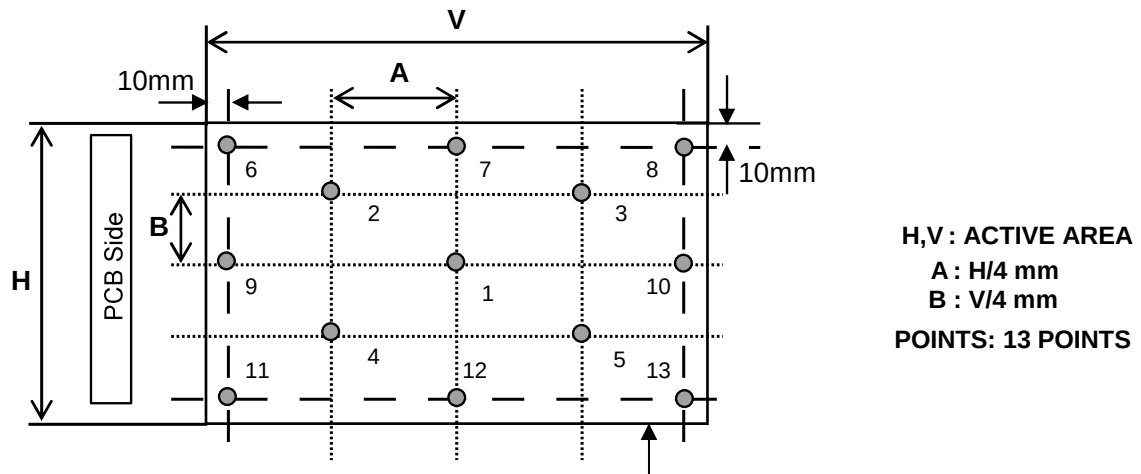

FIG. 3 Response Time
4. Response time is the time required for the display to transition from black to white (rise time, T_r) and from white to black (falling time, T_f) at first peak. For additional information see FIG 3.